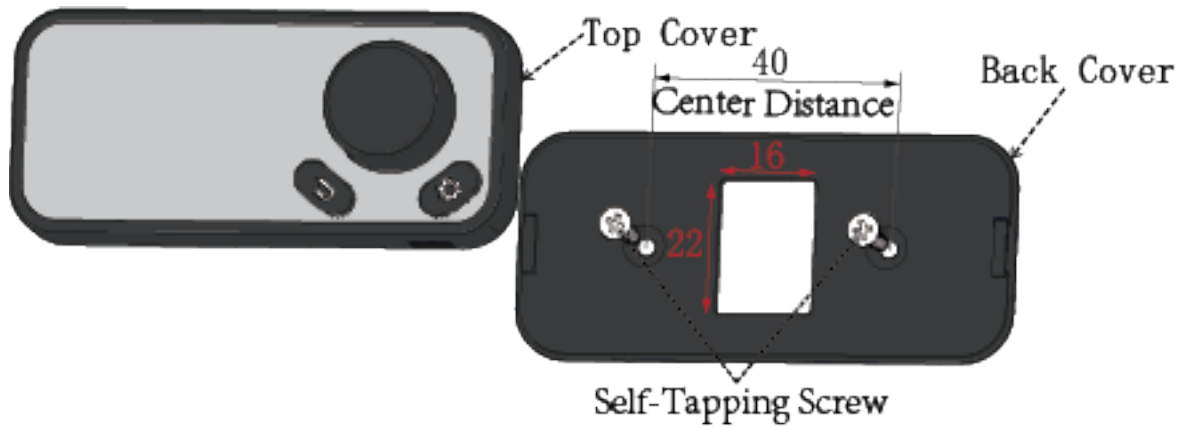

Figure 1
4. Screw in the provided screws into the back plate as shown in Figure 1 below.